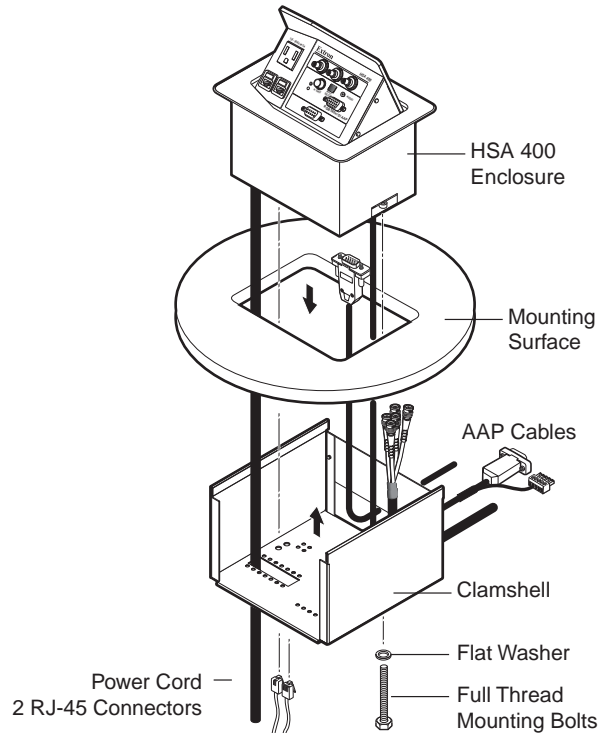

Figure 2-3 — Mounting the HSA 400 enclosure
8. From the underside of the table, bolt the clamshell to the enclosure with two bolts of optimum length (included) (figure 2-3).